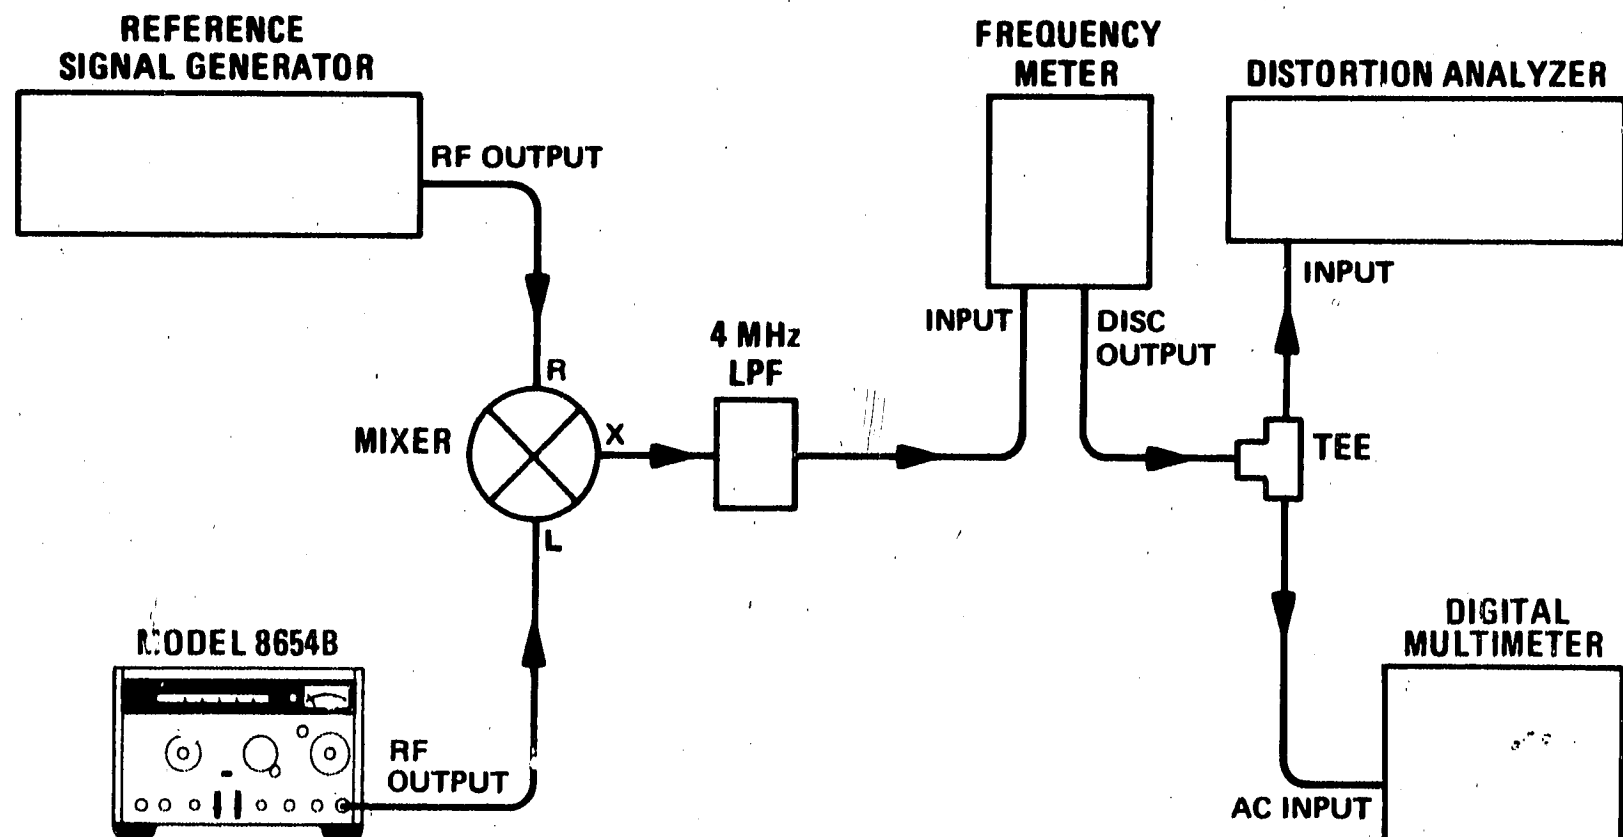

Figure 5-6. FM Distortion Adjustment Setup
2. Connect equipment as shown in Figure 5-6 after setting test Signal Generator controls as follows: